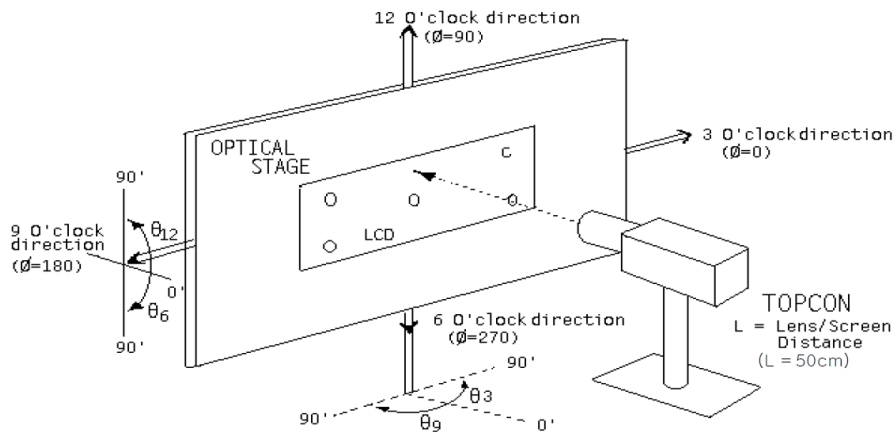

Figure 8: Measurement Set Up
2. Surface luminance is the center point across the LCD surface 50cm from the surface with all pixels displaying white. This measurement shall be taken at the locations shown in FIG. 8.